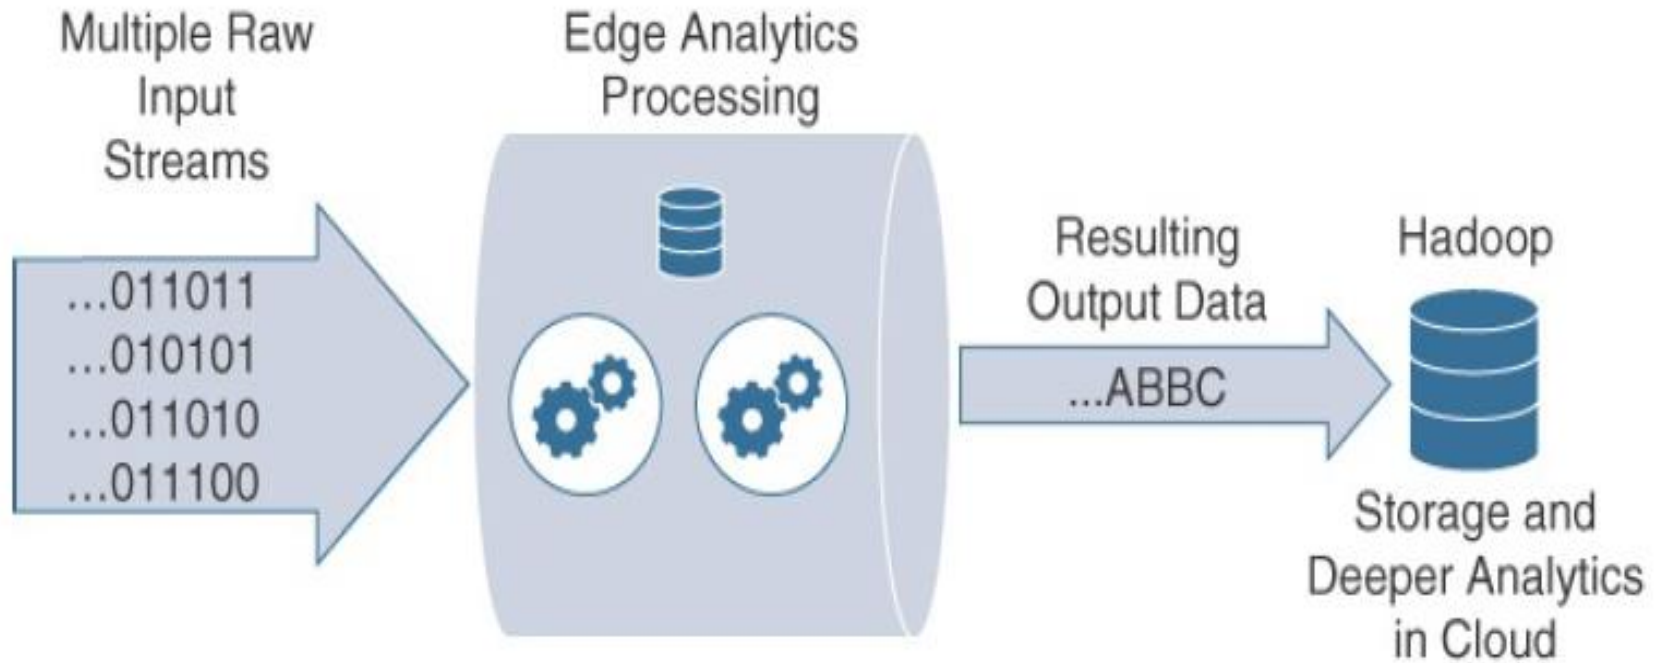

Figure 7.12 : Edge Analytics Processing Unit
- The figure 7.12 illustrates the stages of data processing in an edge APU.